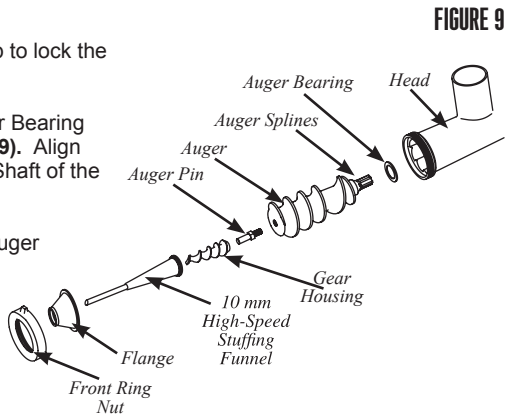

FIGURE 9
3. Insert the Auger, with the Auger Bearing attached, into the Head (FIGURE 9). Align the Auger Splines with the Drive Shaft of the Grinder.